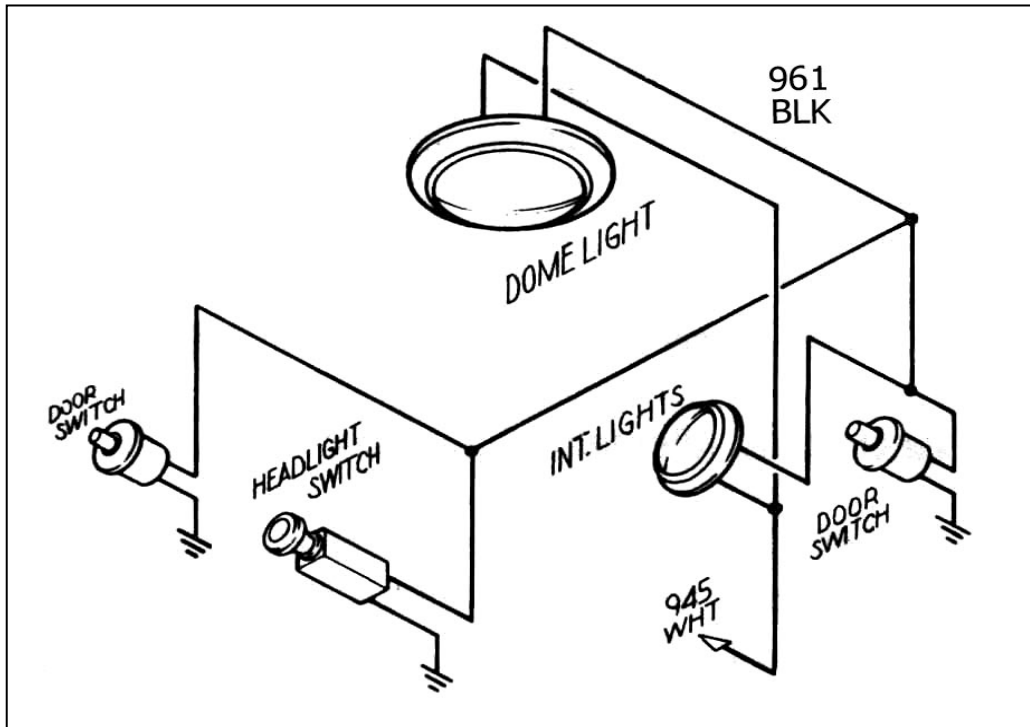

Figure 11-1 Interior Lighting (GM Style Jamb Switch – Painless Part #80170)
11.0 Interior Lighting. See Figure 11-1
- 11.1 Interior Lights are switched through the door switches and the dash-mounted headlight switch, which is usually rotated counter-clockwise to turn on. These switches apply ground to the circuit. YOU WILL NEED TO SUPPLY THESE GROUND WIRES. 12V is continually present at the light bulbs. See Figure 11-1.